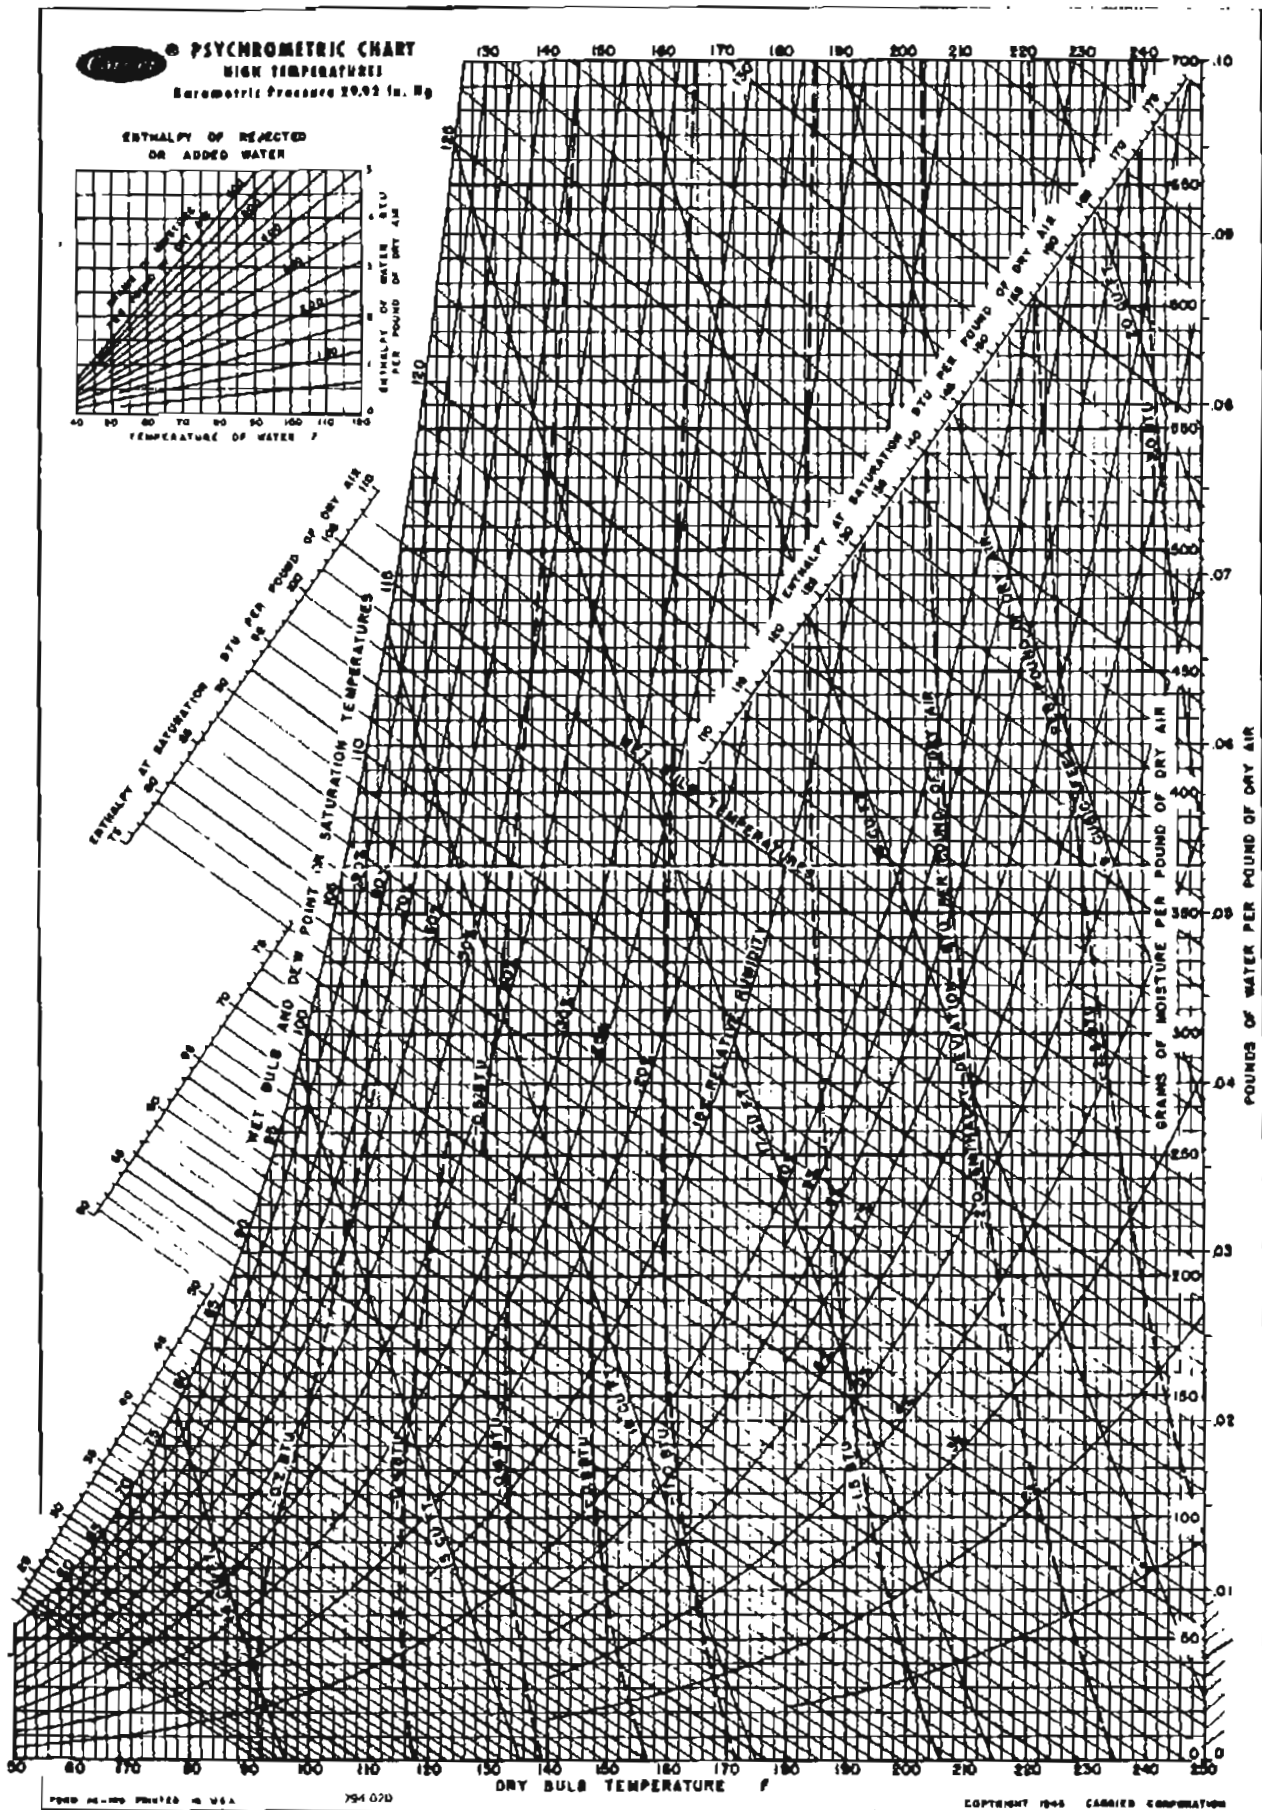
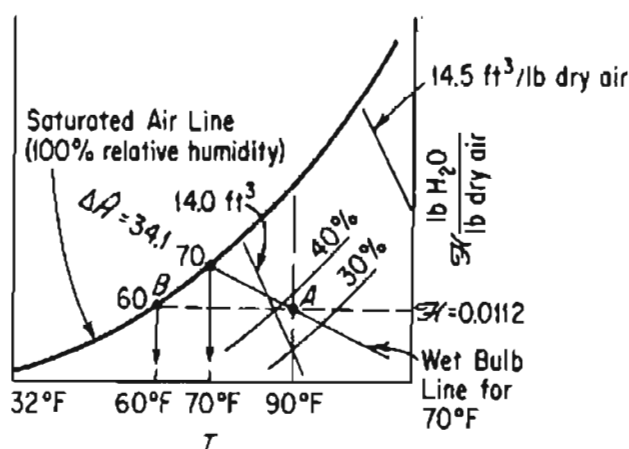

Figure 29.7a Psychrometric chart in AE units. (Reprinted by permission of Carrier Corporation)
Figure E29.1
Figures 29.7a and 29.7b are reproductions of the Carrier psychrometric charts.
A diagram will help explain the various properties that can be obtained from the humidity chart. See Figure E29.1.
- Enthalpy.** The enthalpy value for saturated air with a wet-bulb temperature of 70°F is $\Delta H = 34.1$ Btu/lb dry air (a more accurate value can be obtained from psychrometric tables if needed). The enthalpy deviation shown by the dashed curves in Figure 29.7a (not shown in Figure E29.1) for less than saturated air is about -0.2 Btu/lb of dry air; consequently, the actual enthalpy of air at 37% RH is $34.0 - 0.2 = 33.8$ Btu/lb of dry air.